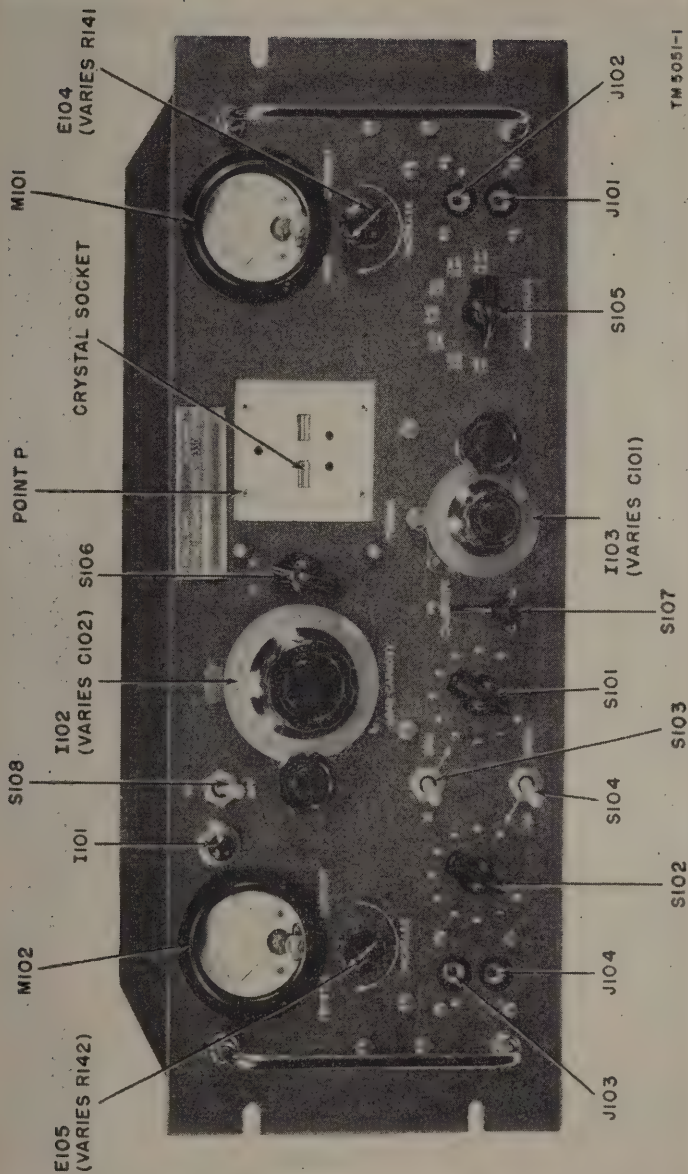

Figure 3. Crystal Impedance Meter TS-330/TSM, panel view.
Crystal Impedance Meter TS-330/TSM (fig. 3) is used to measure the equivalent electrical parameters (fig. 5) of quartz crystals of the type used for communication purposes. The equipment is designed specifically to test quartz crystal units (crystals in holders) for conformance with Military Specifications MIL-C-3098 and MIL-C-10405 and with specified crystal data sheets. Provision is made to
*b. CRYSTAL IMPEDANCE METER TS-330/TSM.* This meter (fig. 3) is used to determine the equivalent electrical parameters of crystal units (crystal oscillator plates mounted in crystal holders) in the frequency range of 1 to 15 mc (megacycles). The CI (crystal impedance) meter is inclosed in a black, wrinkle-finished metal case designed for
The following table lists the controls and jacks on the front panel of Crystal Impedance Meter TS-330/TSM (fig. 3) and gives their locations and functions; the r-f output connection on the back panel also is discussed.